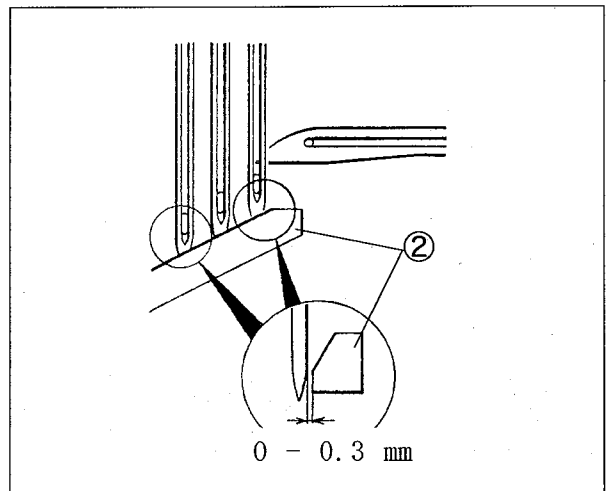

Fig. 6-27
- (4) Loosen the screws① and ③. Adjust the clearance between the needle guard(front)② and the left or right needle to 0 - 0.3 mm respectively. (Fig. 6-27)